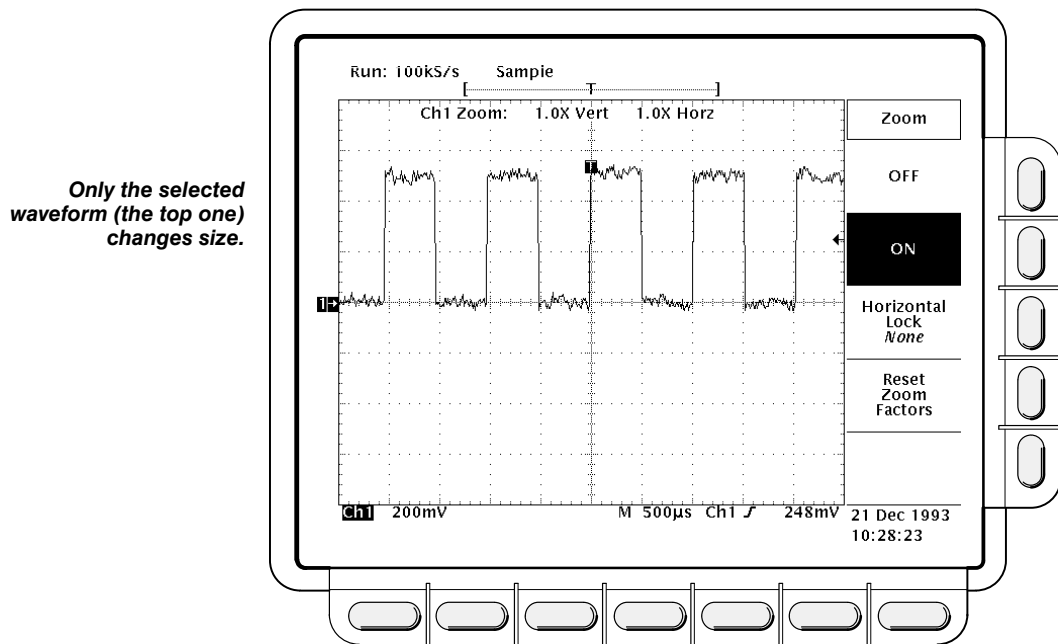

Figure 3-81: Zoom Mode with Horizontal Lock Set to None
- **None** — only the waveform currently selected can be magnified and positioned horizontally (Figure 3-81).